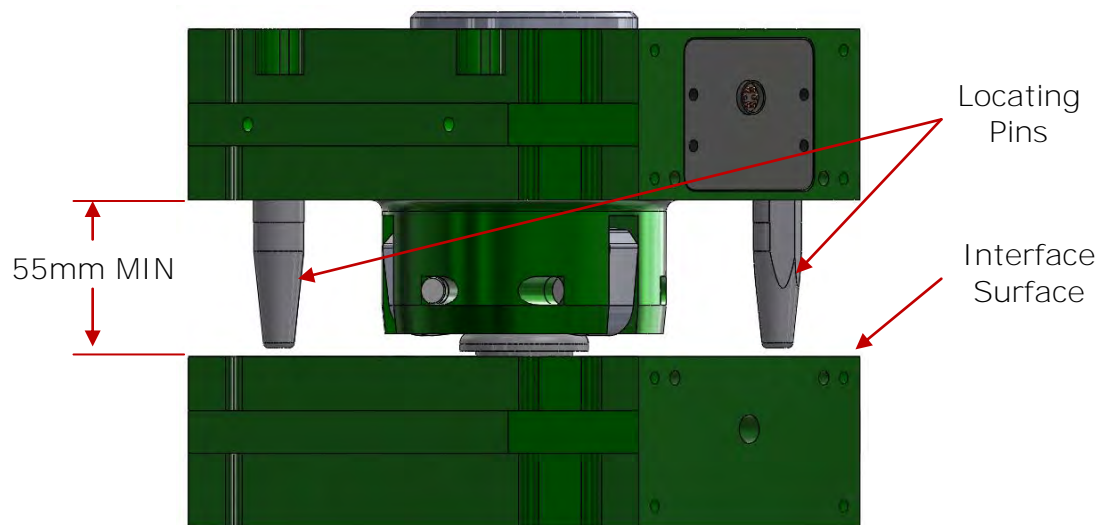

Figure 6.2-1. E125 Tool Changer – Docking Orientation
1. Orient the Robot Adaptor and Tool Adaptor so that the centerline axes are aligned and the interface surfaces are parallel. Maintain approximately 55mm minimum separation between the Robot Adaptor and Tool Adaptor interface surfaces (Figure 6.2-1).